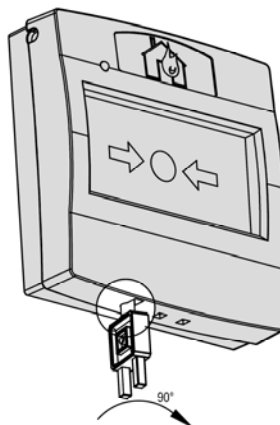
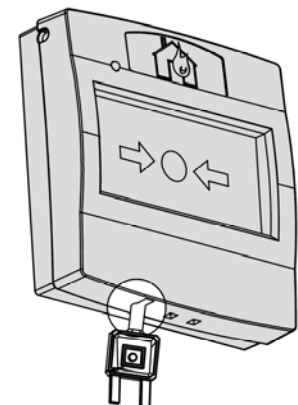

Figure 10
Figure 11
3. Rotate the key clockwise position up to 90-degree angle (Figure 10). then forcedly push the key inside until the glass plate completely return to its normal position. (Figure 11)